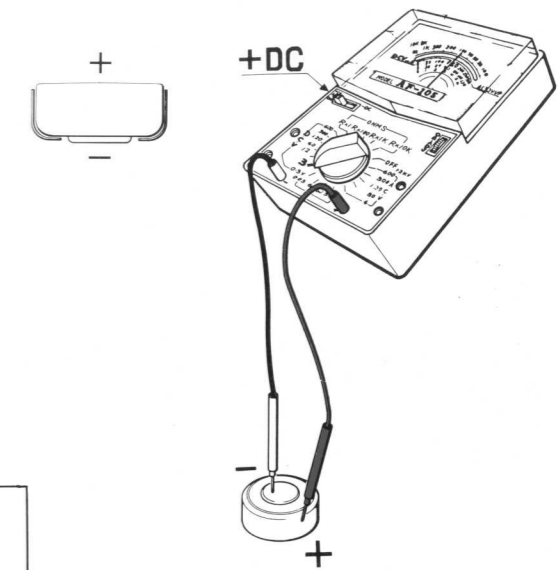

Fig. 4-1
- 2) Apply the lead-plug of the tester as under (Fig. 4.1);